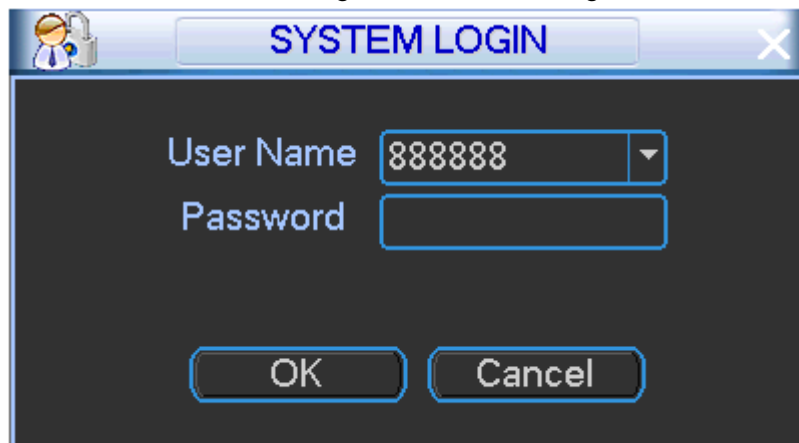

Figure 4-3
Step 2 Click Cancel/Next button, enter login interface. See Figure 4-3.